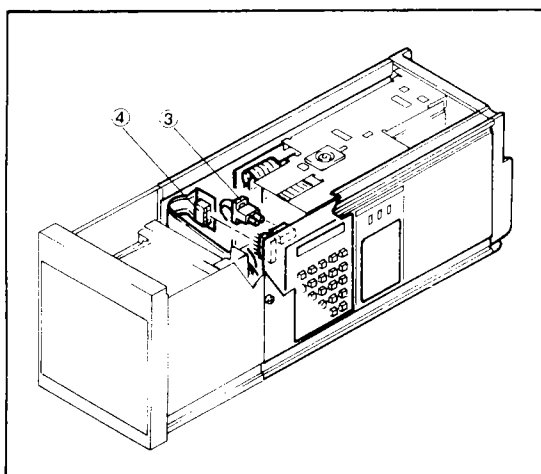

Figure 7-6. Removing Connectors.
- (3) Remove two connectors ③ and ④ in Figure 7-6. (Do not apply excessive force.)